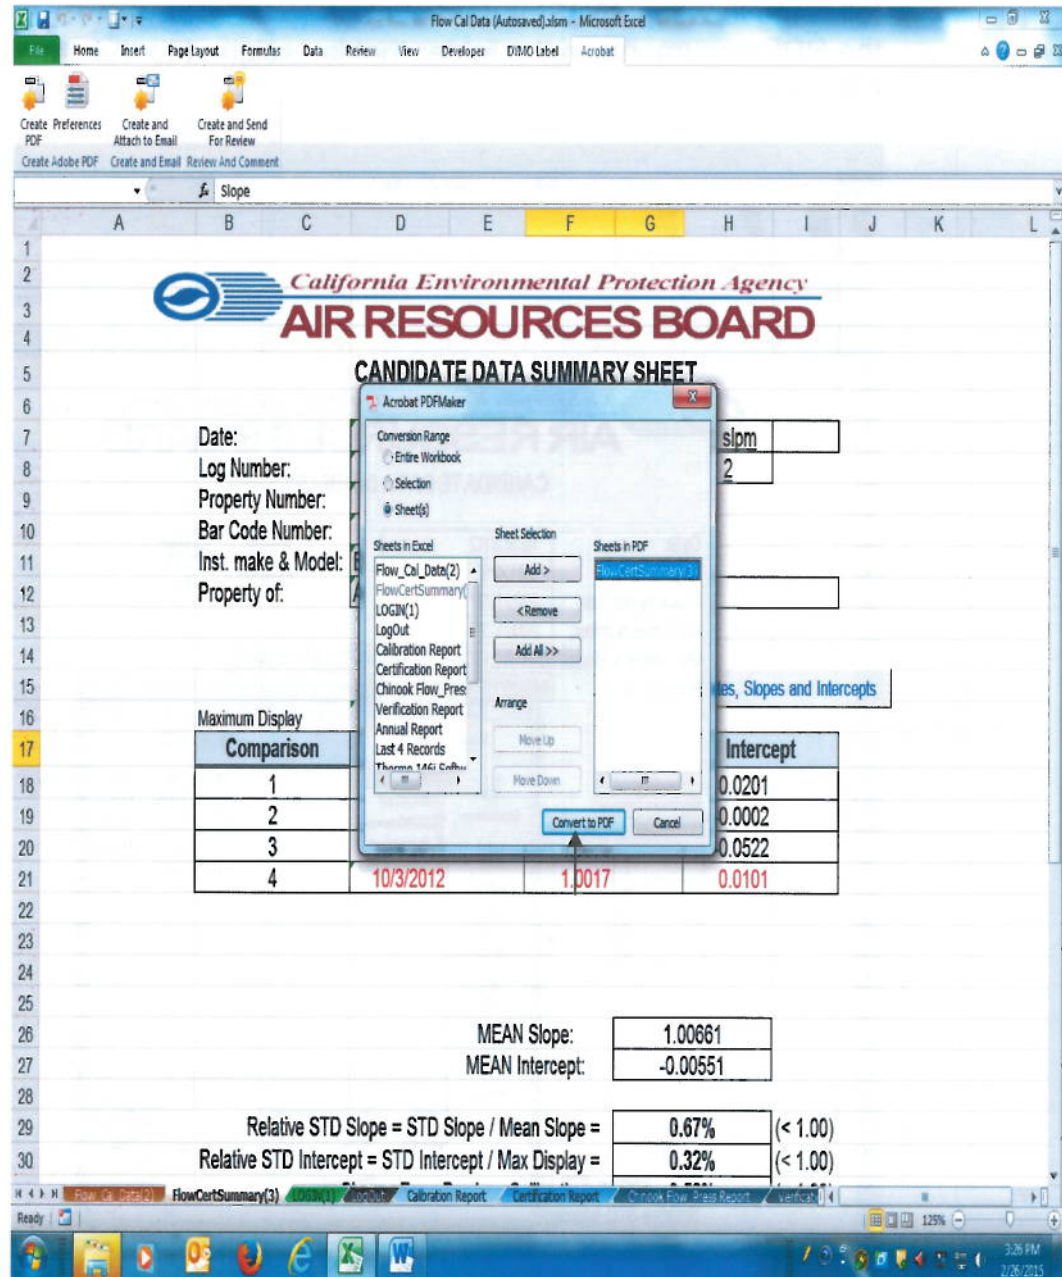

Figure 34
14.2 Click on the “Convert to PDF” button. See Figure 34.